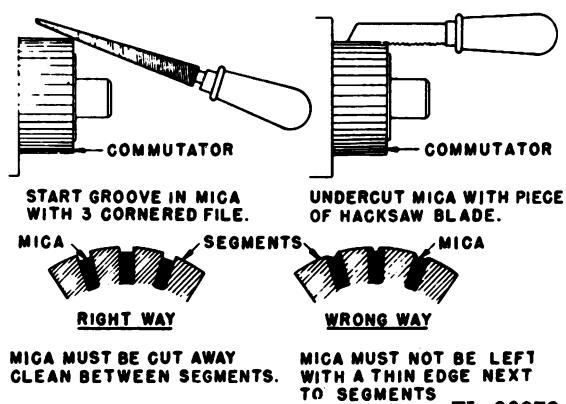

Fig. 220. Undercutting Mica
(2) Check the commutator. If it is rough, burned, or eccentric, resurface it in a lathe. Turn off only enough copper to leave a uniformly true surface. Do not turn off any copper from the commutator risers. After the commutator is turned, carefully undercut the mica insulation between the copper segments to a depth of .030 inch. (See Figure 220.) The sharp edges of the bearings should be removed with a hand scraper or knife. Smooth and polish the commutator surface with fine sandpaper, #00. Test the armature for short circuits or grounds. See paragraph 73g.
(3) Clean the brushes in unleaded gasoline, but do not soak them. Dry thoroughly before re-use. If the brushes are worn too short for the lever to hold them against the commutator or less than half their original length, replace the brushes. New brushes should be seated to the contour of the commutator. This can be done when the cranking motor is assembled.